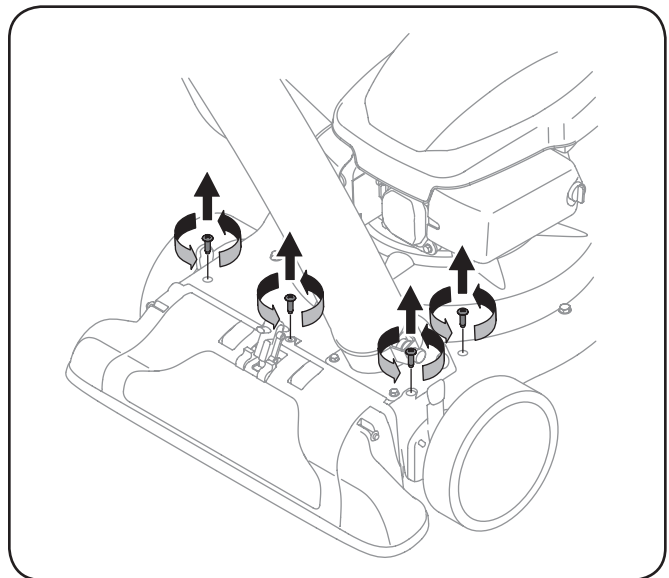

Figure 7-3
6. Remove the four screws on the upper housing that secure the nozzle cover. See Fig. 7-3.